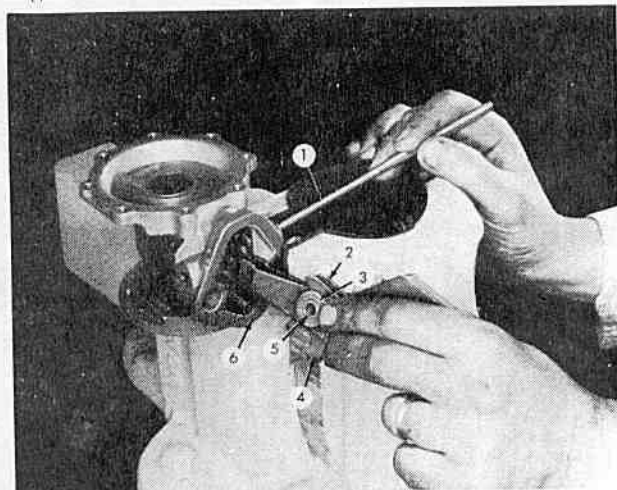

FIG. 394
Place the pump body in a vise with the fuel flange down. Set the rocker arm spring (6, Fig. 394) in position with one end over the cone cast in the body. With the two outer spacer washers (3) over the ends of the bushing (5), slide the rocker arm and link assembly (2) into the body. The outer end of the rocker arm spring slips over the projection on the link spacer (4). The open end of all link hooks must point toward the vacuum flange. Temporarily retain the rocker arm and link assembly with small diameter end of AC Tool No. PT-6, Kent-Moore Tool No. KMO-707 (1).